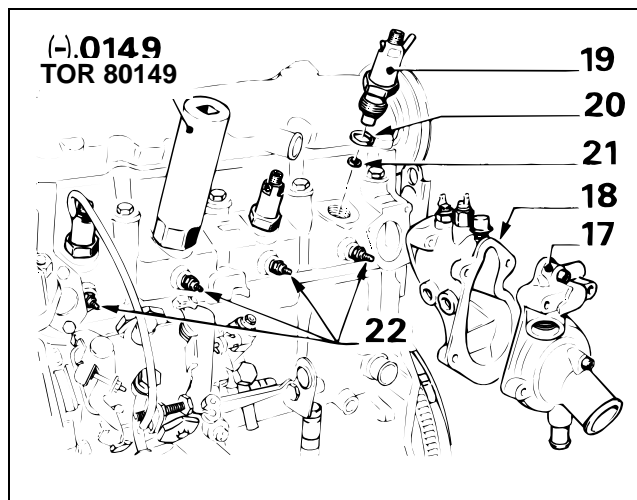

Figure 58
12. Remove the thermostat housing cover (Fig. 58, Item 17).